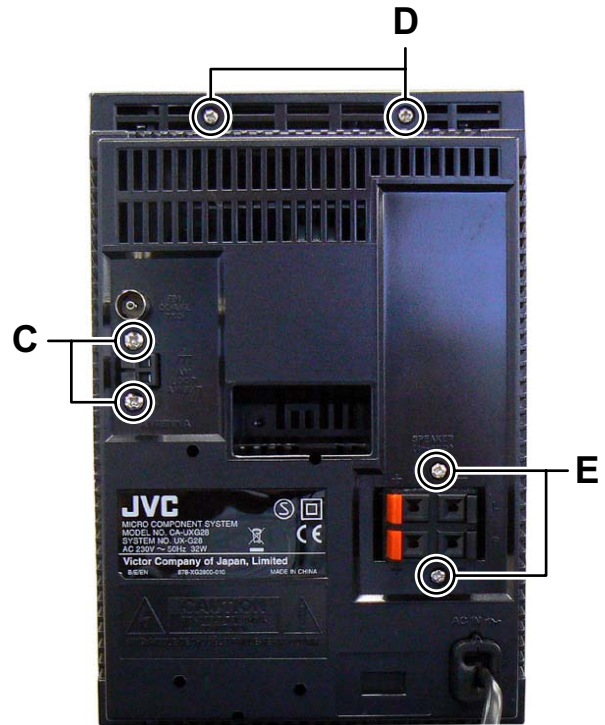

Fig.3
- (3) Remove the two screws **C**, two screws **D** and two screws **E** attaching the REAR COVER. (See Fig.3)